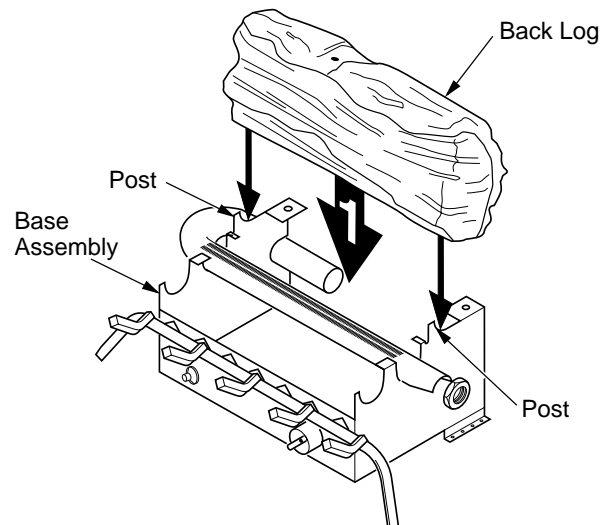

Figure 32 - Installing Back Log
1. Place the back log onto the back of the base assembly. Make sure log sits forward against the two posts in front of log (see Figure 32). This log may be turned to face either direction.